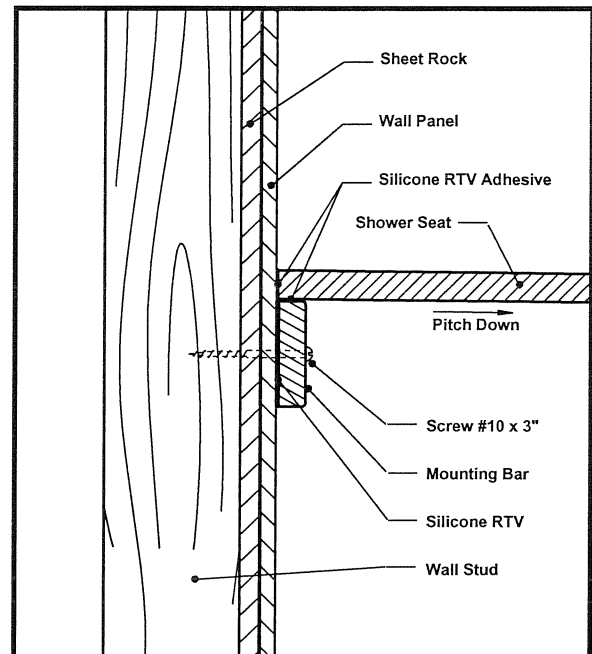

Fig. 3
- Step 4. Clean wall panels and rough side of mounting bars with foam type cleaner. Liberally apply Silicone Sealant to mounting bars and install snugly with 4 stainless steel screws provided. Apply Silicone Sealant to bonding areas of the seat and place seat into position (See Fig. 3). Apply weight to top of seat to hold in position. Use masking tape on the underside to hold the seat against the walls.